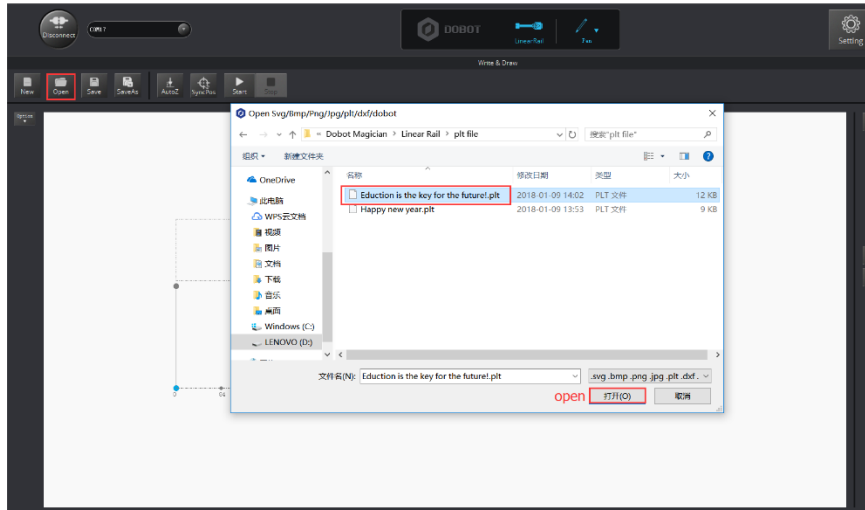

Figure 1.15 Import file
**Step 5** Click **open** to import the PLT files. As shown in Figure 1.15.